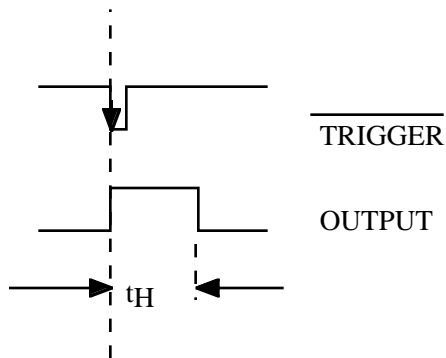

Figure 5. 555 waveforms: input (upper), output lower
7. This should produce a 400  $\mu$ s negative going pulse similar to that shown in Figure 5 at the 555's TRIGGER\* input.